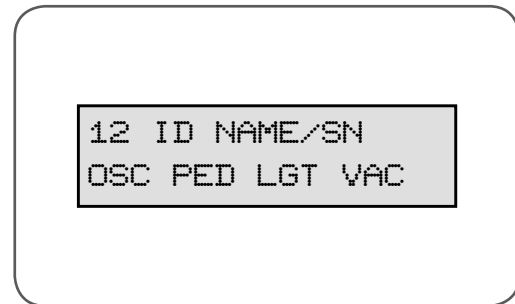

fig 24
Up to 511 transmitters can be stored within the opener's memory. Each transmitter can be allocated an alpha-numeric ID label up to eleven (11) characters in length and each button can be assigned to one of several control functions. The settings for a transmitter are represented in (Fig. 24). It shows the transmitter's store number, ID label or Serial number and the functions assigned to each of its four buttons. To toggle between ID/SN display, press UP/DOWN with the cursor on the ID/SN indicator. The procedures below code, delete, replace, edit and copy transmitter records.